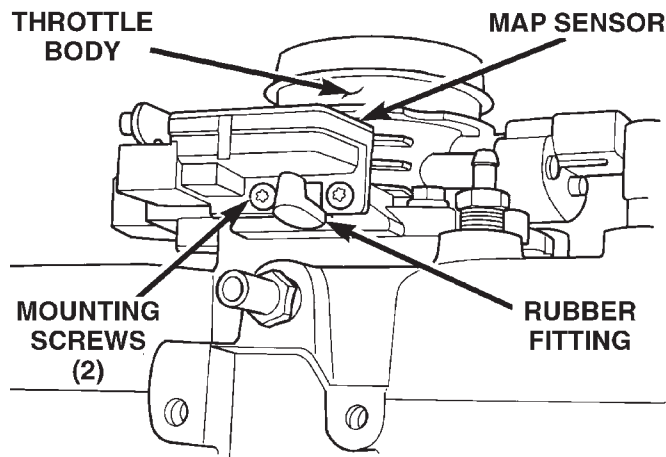

Fig. 72 MAP Sensor Mounting—4.0L Engine
The MAP sensor is mounted to the side of the throttle body. An L-shaped rubber fitting is used to connect the MAP sensor to throttle body (Fig. 72).
- (1) Remove air cleaner intake tube at throttle body.
- (2) Remove two MAP sensor mounting bolts (screws) (Fig. 72).
- (3) While removing MAP sensor, slide the rubber L-shaped fitting (Fig. 72) from the throttle body.
- (4) Remove rubber L-shaped fitting from MAP sensor.